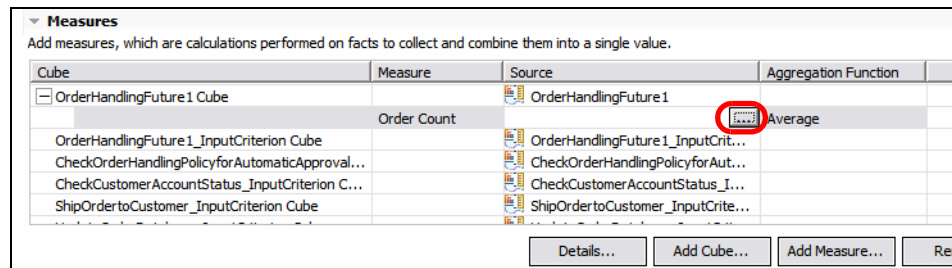

Figure 12-29 Source for the measure
- ▶ Click  in the Source column for the Order Count measure (Figure 12-29).